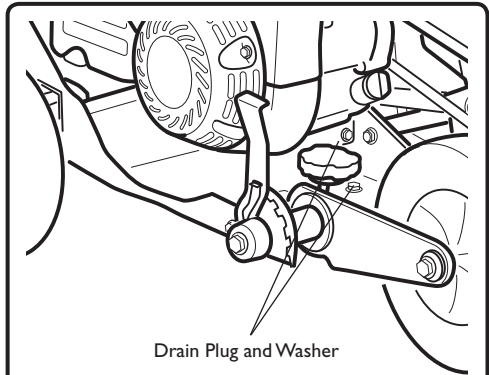

Figure 15
3. Remove the drain plug and washer. (See Figure 15)